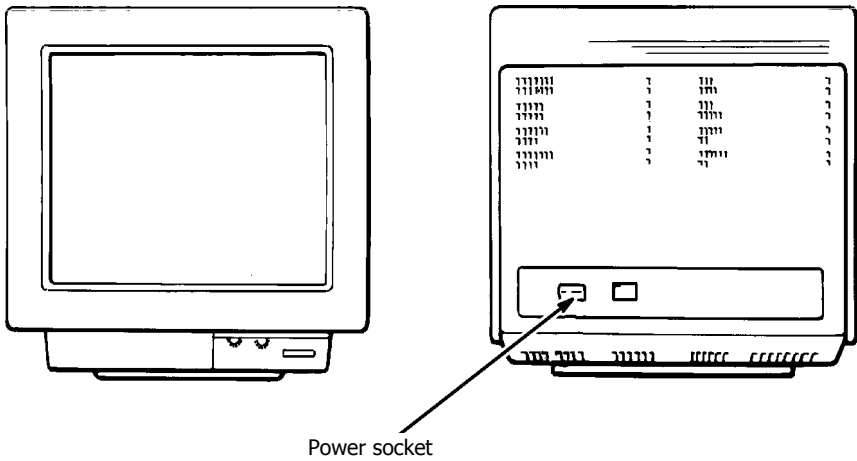

Figure 10 The Screen
2. Connect the power cable to the socket on the rear of the screen (Figure 10).